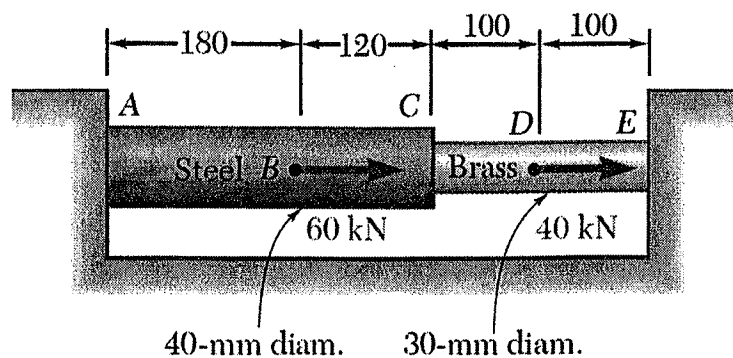

Figure 1b
- b. Two cylindrical rods, one of steel and the other of brass, are joined at C and restrained by rigid supports at A and E. For the loading shown in Figure 1b and given that  $E_s = 200 \text{ GPa}$  and  $E_b = 105 \text{ GPa}$ , determine